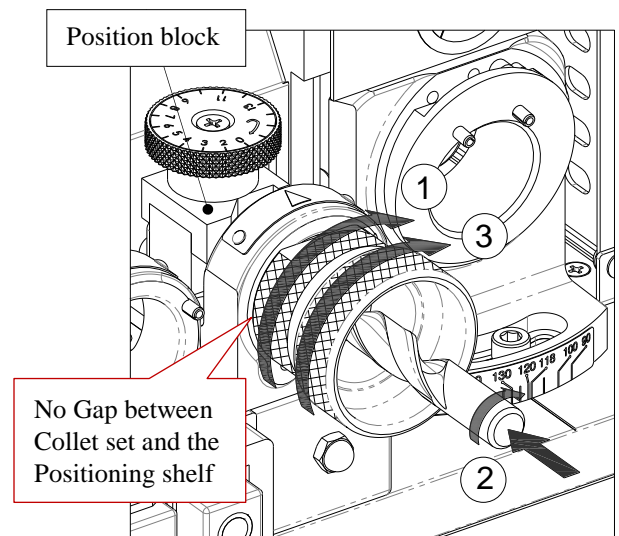

Fig. 6-2
3. Drill Positioning (Fig. 6-2)
- ① Inserting the Chuck set into the Positioning shelf (connecting closely without any interval) and turn it clockwise to the end.
- ② Push the drill to the end and turn slowly the drill by clockwise until it is blocked by the position block.
- ③ Turn the collet holder clockwise and tighten lightly the Chuck set.
- ④ Rotate the Chuck set counter clockwise and take it out gently.